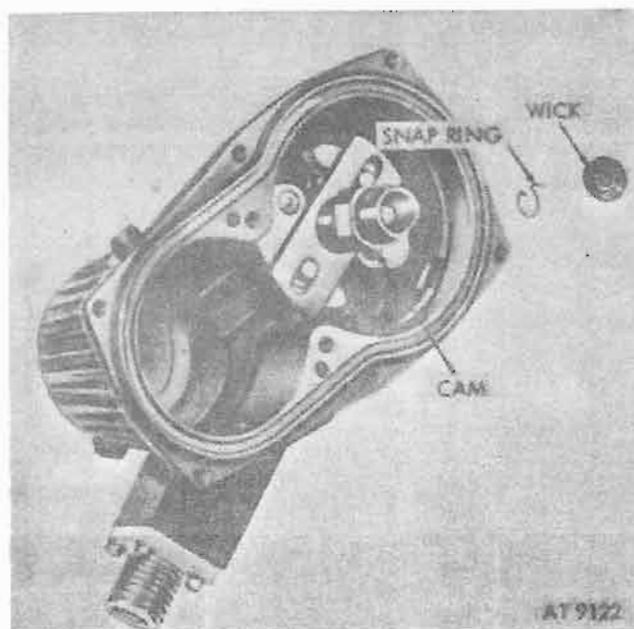

Figure 6-2. Cam assembly.
a. Remove felt wick using long-nosed pliers or sharp pointed instrument. Remove snapping (spring) securing cam to shaft (fig. 6-2).
(3) Inspect gasket and gasket seats. Discard if rough or corroded.
f. Cam (fig. 6-2). Clean cam in mineral spirits paint thinner or drycleaning solvent. Inspect cam lobes and weight slots for wear. Discard cam if lobes are grooved or if sides of weight slots are rough.